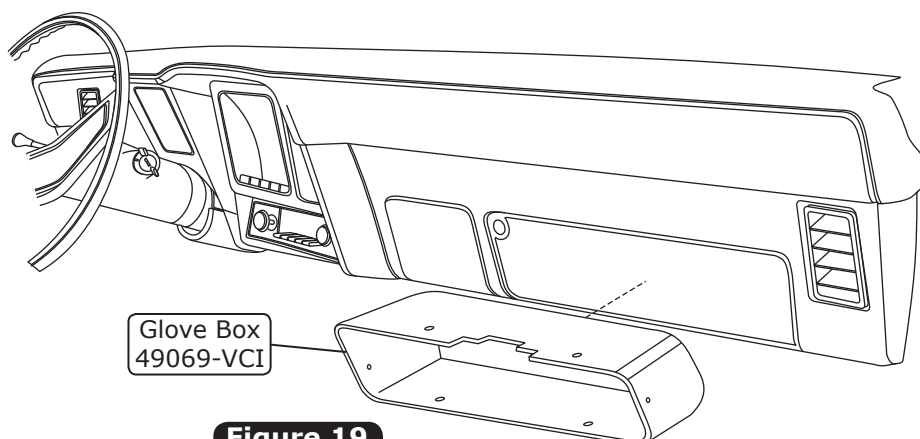

Figure 19
1. Install the new glove box into the glove box opening, and secure it using #8 x 1/2" pan head screws through the OEM holes (See Figure 19, below).